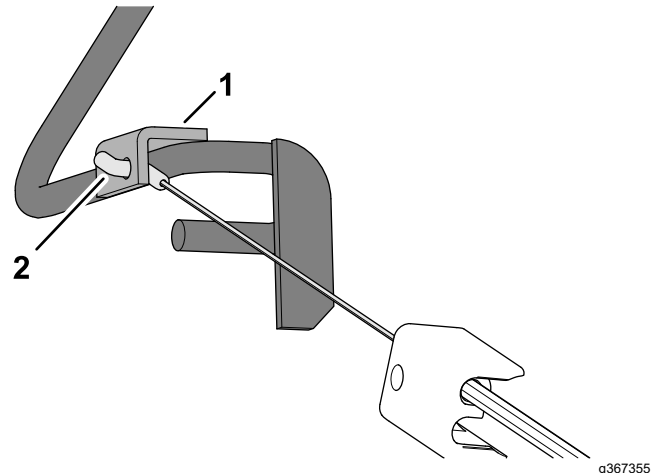

Figure 11
3. Insert the cable fitting through the hole in the bracket of the operator-presence bail as shown in Figure 11.